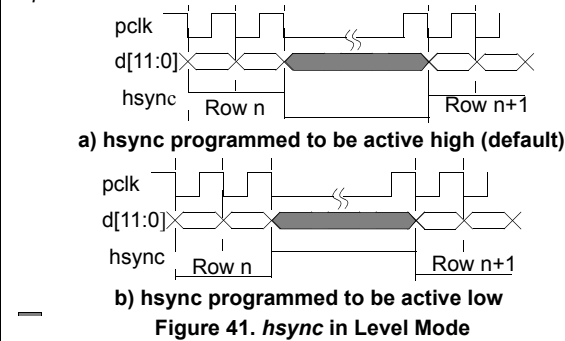

Figure 41. hsync in Level Mode
- Level mode should be used when the pixel clock, *pclk*, is programmed to operate in *free running mode*. In level mode the *hsync* output pin will go to the specified level (high or low) at the start of each row and remain at that level until the last pixel of that row is read out on *d[11:0]* as shown in Figure 41. The *hsync* level is always synchronized to the active edge of *pclk*.